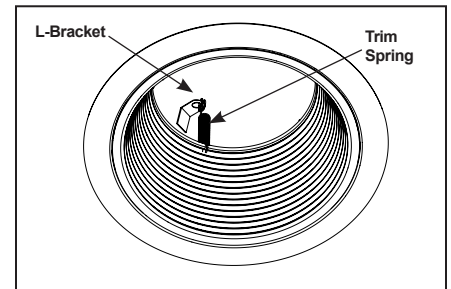

Figure 9
**Step 1.** Install open trims using supplied coil springs or torsion springs. (Reference Figure 9 for coil spring installation).